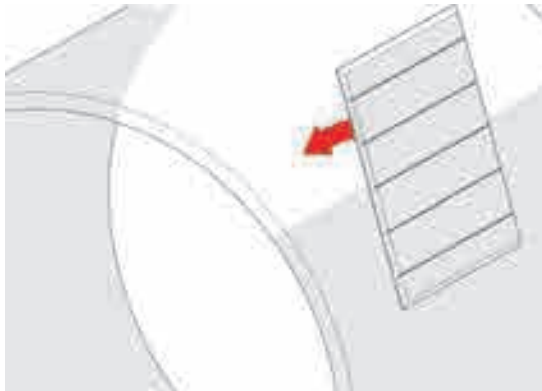

Figure 3-7 Place installation/removal mat
3. Place the installation/removal mat on the inspection surface (Figure 3-7 on page 62).